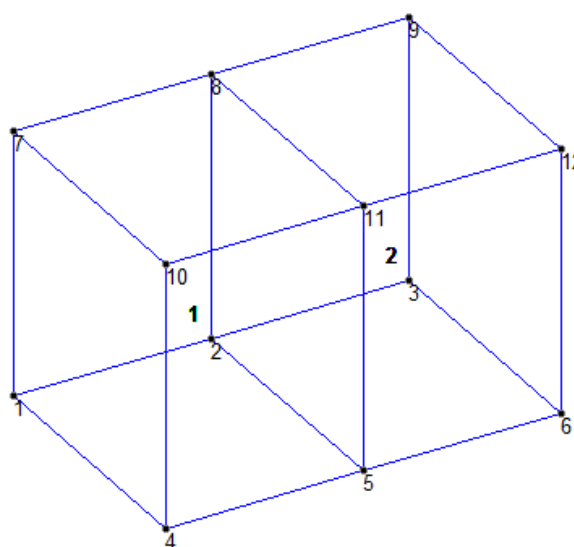

Figure 2-19 Solid elements created using commands
Step 3: Choose the **Save** button and close the **STAAD Editor** window; the solid elements are created, as shown in Figure 2-19. Press SHIFT+C to view the solid element numbers.